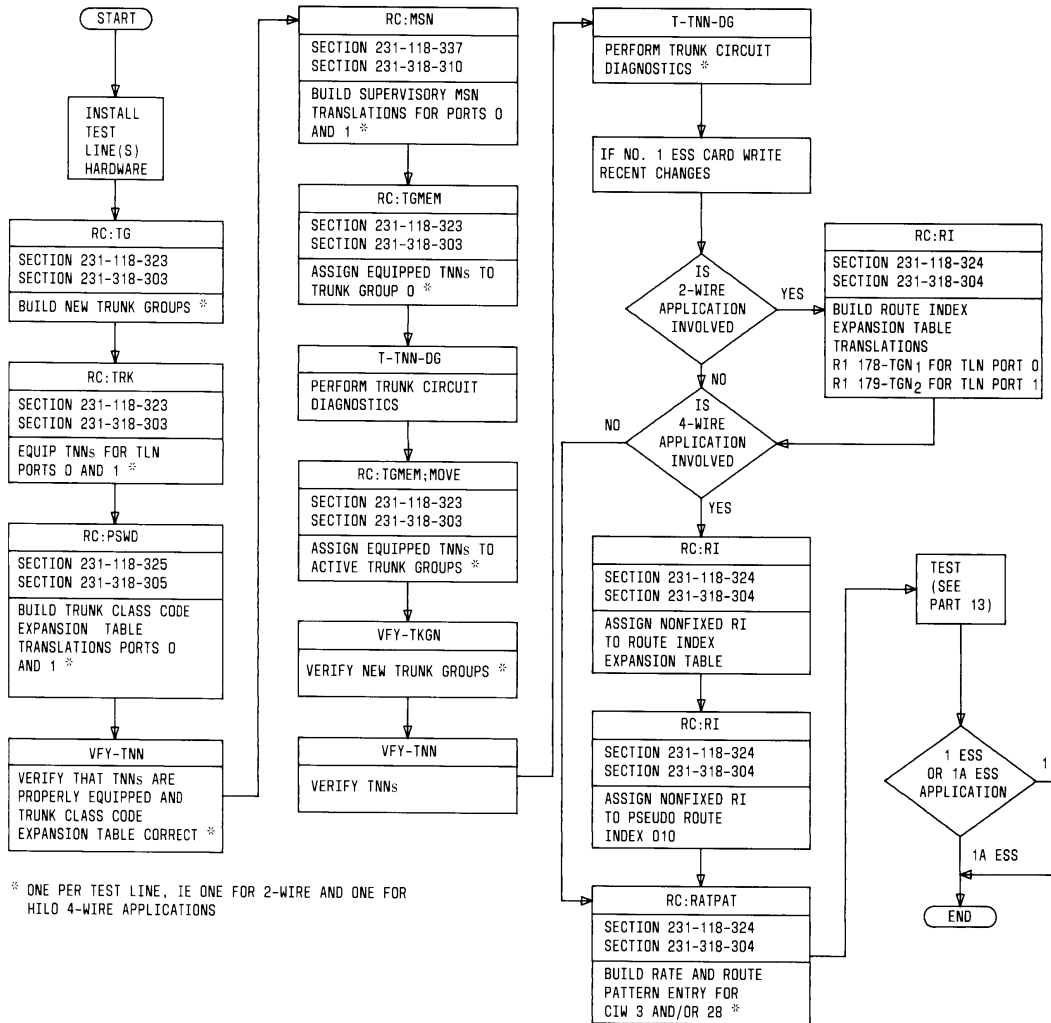

Fig. 10—Procedure for Adding the
9.01 Figure 10 illustrates the procedure to add the 108TL feature, providing the appropriate generic program exists in the office. Refer to paragraph 1.03.